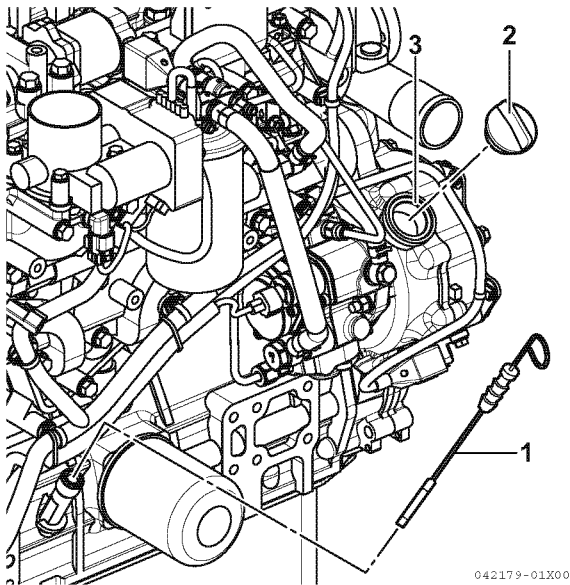

Figure 5-14
8. Add engine oil (**Figure 5-14, (3)**) as needed until the level is between the upper and lower lines shown on the dipstick (**Figure 5-14, (1)**).
9. Reinstall the oil filler cap (**Figure 5-14, (2)**). If any engine oil is spilled, wipe it away with a clean cloth.